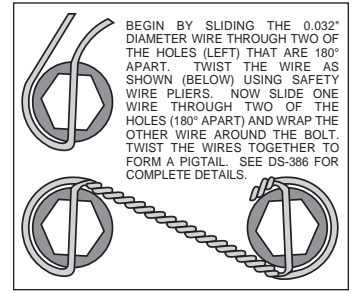

Figure 5. Safety Wire Diagram
- Orient the rotor (6) and the hat (7) as shown in Figure 1 and Photo 1. Attach rotor to hat using bolts (8) and washers (9). Using an alternating sequence, apply red *Loctite*® 271 to the threads, and torque to 155 in-lbs. For an added measure of security, the bolts may be safety wired using standard 0.032 inch diameter stainless steel safety wire as shown in Figure 5.